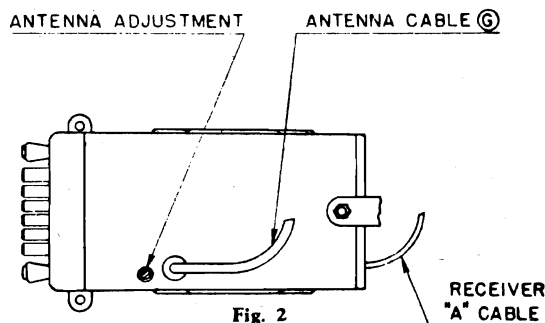

Fig. 2
If the lead-in from the car antenna is not shielded, it is advisable to do so to overcome motor noise. Slip a shielded loom over the entire length of the car antenna lead-in. In some cases where a roof antenna is used, the lead-in is brought down through a corner post of the car frame at the end of the windshield (See Figure 2). If the radio antenna cable is long enough to be inserted several inches into the corner post, connect antenna lead-in and the radio antenna cable as shown in Figures 5, 6 and 7, and after taping, insert the splice and all the unshielded portion of the lead-in up into the corner post. If this cannot be done, this type of lead-in should be covered with a shielded loom several inches into the corner post. Connect the lead-in and shielding as illustrated in Figures 5, 6 and 7. The other end of the shielding at the car antenna should be grounded. To eliminate crackling and noisy reception due to antenna lead-in pick-up, the shielded antenna lead-in should be either insulated from chassis (or car body) or grounded at interval points, leading from the radio antenna cable to the car antenna. Be sure to use car chassis or grounded section of body only for grounding.
The antenna adjustment control is located close to the antenna cable receptacle as shown in Figure 2. To make the adjustment first, remove plug button from bottom of case by inserting a screwdriver between case and plug button, then tune in a weak station with full volume at or very close to 600 kilocycles (60) on the dial. Second, insert a small screwdriver into the antenna adjustment screw shown in Figure 2 and turn the screwdriver either to the left or right until the volume of the station is at its maximum point. While adjusting the antenna adjustment screw it is advisable to vary the station selector knob a degree or two to obtain the best adjustment. Now insert plug button into case. The receiver is now balanced and no further radio electrical adjustments are necessary.